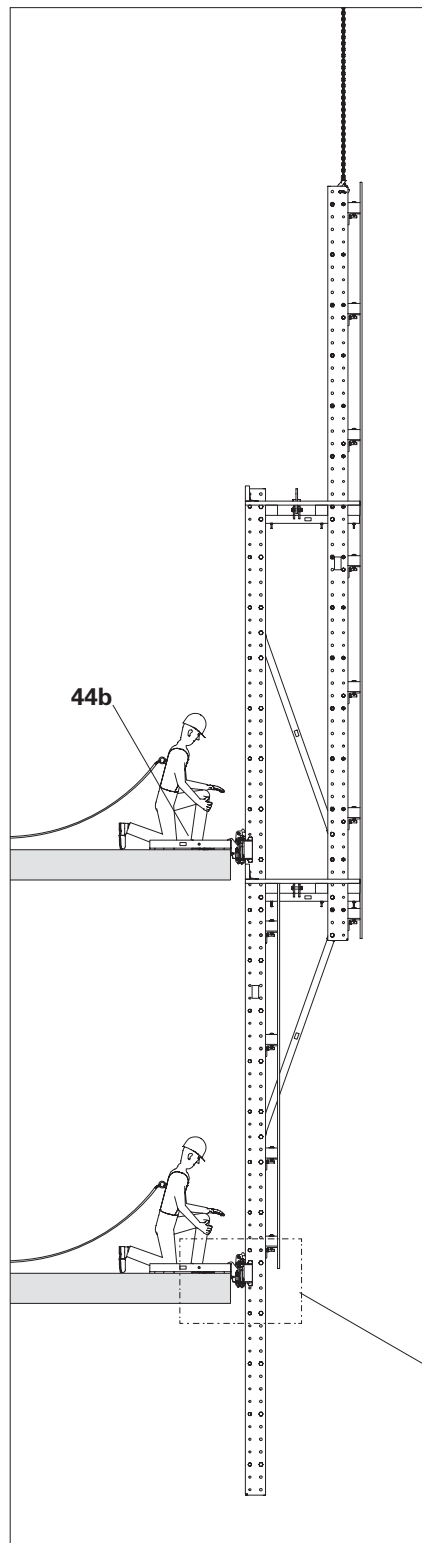

Fig. C4.05
9. Activate the climbing pawls of the bottom slab shoe and deactivate the top slab shoe. (Fig. C4.05 + C4.05a)